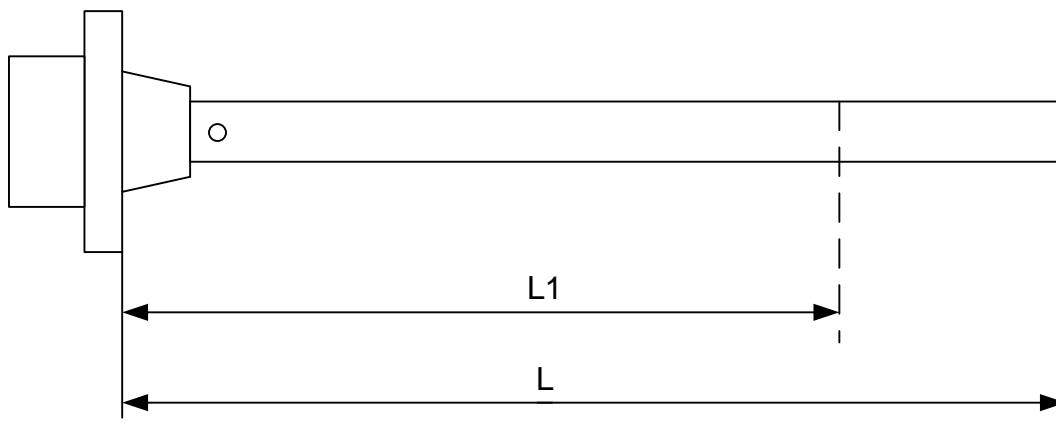

Fig. 3
- 3) Cut L1 length with a hacksaw (or another suitable tool) so that the cut line is strictly perpendicular to the longitudinal axis of the FLS (Fig. 3);
When adjusting the FLS, you need to specify the actual length of the tube L1 - from the plastic head of the sensor to the end of the tube (Fig. 3).